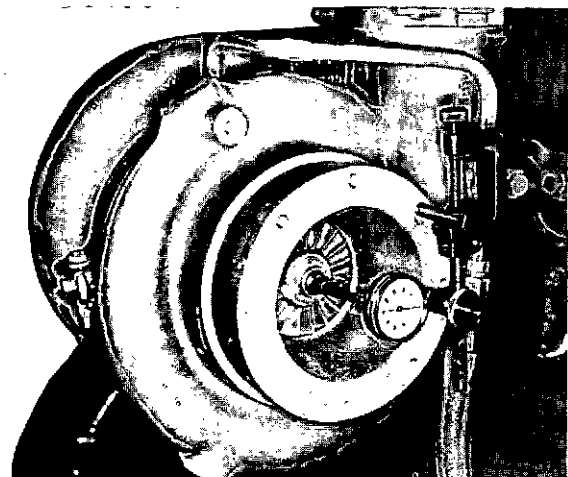

Fig. 2-69 (N11956) Checking turbocharger bearing end clearance
2. Remove one capscrew from the front plate (compressor wheel end) and replace with a long capscrew. Attach an indicator to the long capscrew and register indicator point on end of rotor shaft. Push shaft from end-to-end making note of total indicator reading. Fig. 2-69. On T-35 end clearance should be 0.004 to 0.015 [0.10 to 0.38 mm]. On T-50, ST-50 and VT-50 end clearance should be 0.005 to 0.018 inch [0.13 to 0.46 mm].